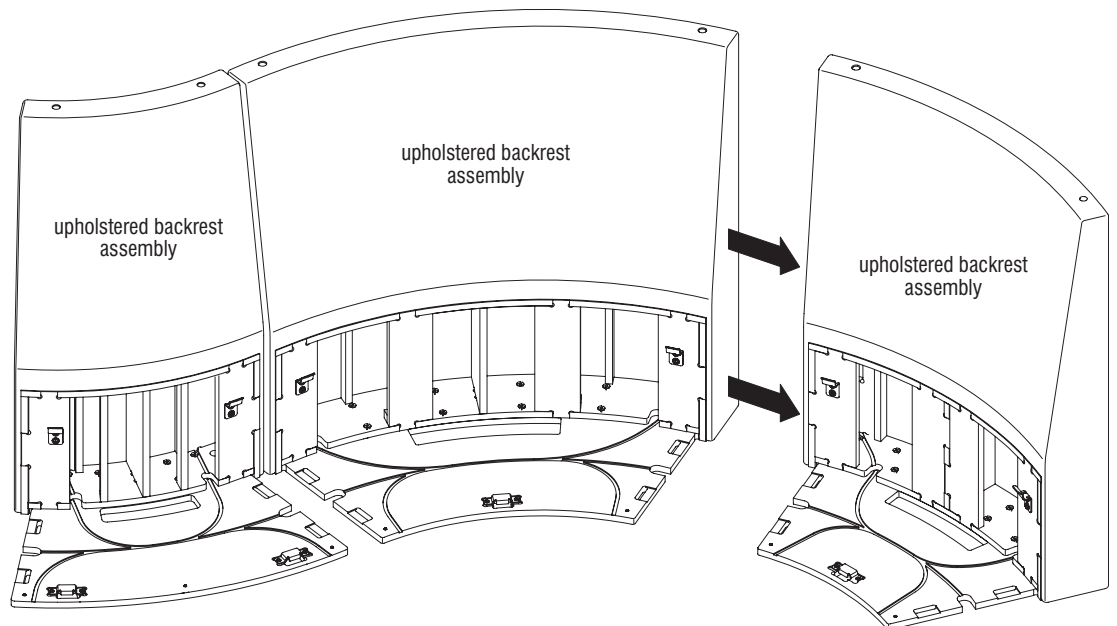

Figure 2
3. Carefully turn the upholstered backrest assembly onto its feet/glides in the upright position. Carefully move the backrest to the desired installation location (Figure 2).
4. Repeat "Seat Base Installation" instructions, steps 1 through 3 to assemble the seat bases to the remaining MyPlace High-Back Lounge units (Figure 2).
5. Arrange all the lounge seat assemblies to the approximate location per the space-planning layout, leaving a gap between the assemblies which will be ganged (Figure 2).